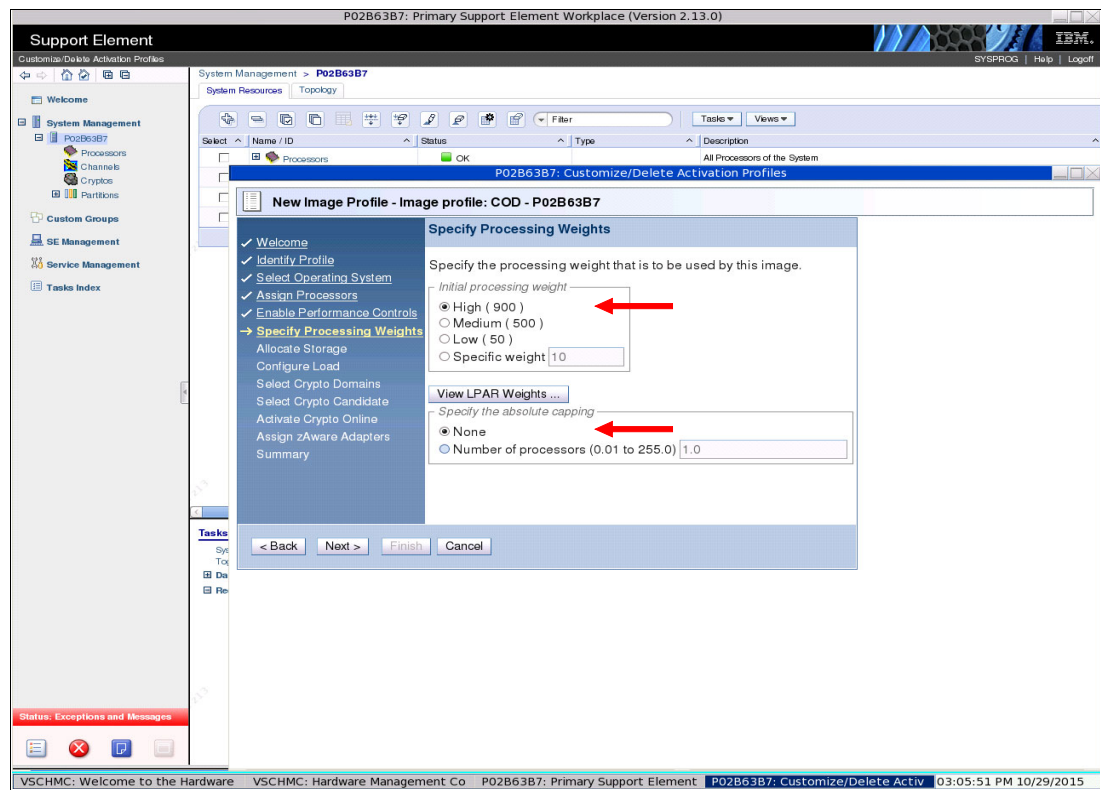

Figure 5-36 Specify processing weights
8. We select **High** for the initial processing weight and **None** for default absolute capping. Then, we select **Next**, as shown in Figure 5-36. (This system is a limited system; therefore, no performance consideration is made now.)